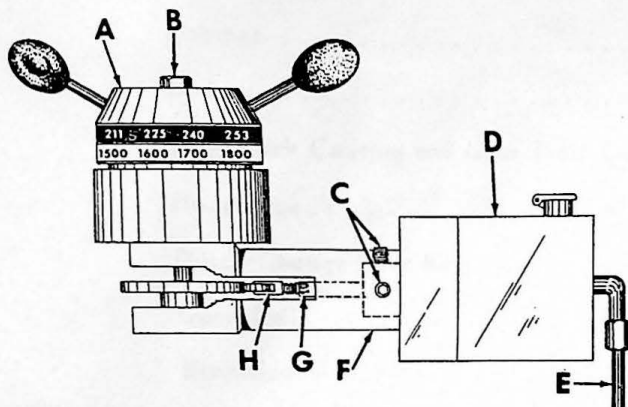

FIGURE 25
1. Start lathe and turn speed control (A, Fig. 25) to top speed. Stop lathe and remove hydraulic hose (E) (use container to catch oil).
5. Remove rod (G, Fig. 25) from housing (F) and insert rod into upper cylinder (D) making sure socket set screw end is exposed.
6. Hold speed control (A) firmly against low speed stop while mounting upper cylinder (D) against housing (F) – secure with set screws (C).
- B. Loosen bleeder screw (D, Fig. 25) a few turns until oil starts coming out around the screw.